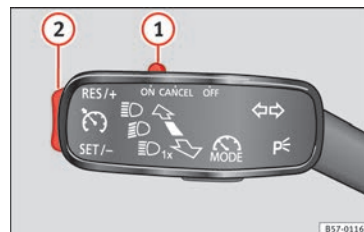

Fig. 49 On the left of the steering column: switches and controls for operating the CCS
- Switching on the CCS: Move switch »» Fig. 49 ① to **ON**. The system is on. If no speed has been programmed, the system will not control it.
- Activating the CCS: Press button »» Fig. 49 ② in the **SET/-** area. The current speed is memorised and controlled.
- Temporarily switching off the CCS: Move switch »» Fig. 49 ① to **CANCEL** or push the brake. The cruise control system is switched off temporarily.
- Reactivating the CCS: Press button »» Fig. 49 ② in **RES/+**. The memorised speed is saved and controlled again.
- Increasing stored speed during CCS regulation: press button ② in **RES/+**. The vehicle accelerates until the new stored speed.
- Reducing stored speed during CCS regulation: press button ② in **SET/-** to lower the speed by 1 km/h (1 mph). Speed is reduced until reaching the new stored speed.
- Switching off the CCS: Move switch »» Fig. 49 ① to **OFF**. The system is disconnected and the memorised speed is deleted.